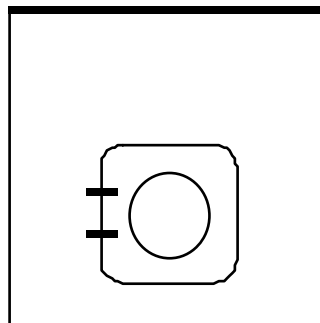

Figure 10-1
- Set the top cover *upside-down* in front of you, with the back edge facing away. Place the speaker over its holes, with the lugs to the *left*. (Figure 10-1) .